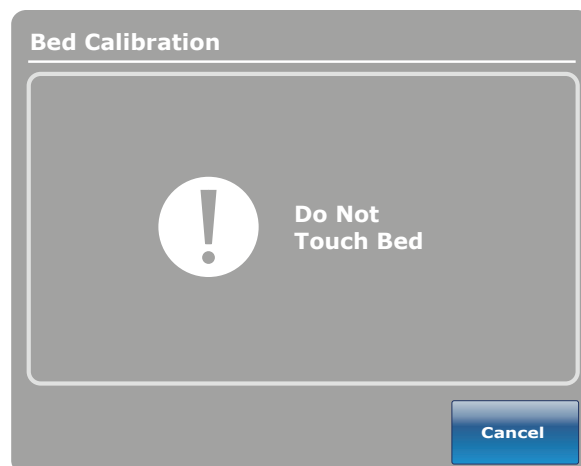

Figure 12: Do Not Touch Bed Screen
10. Press the **Next** button when done. The "Do Not Touch Bed" screen will appear as shown in Figure 12.